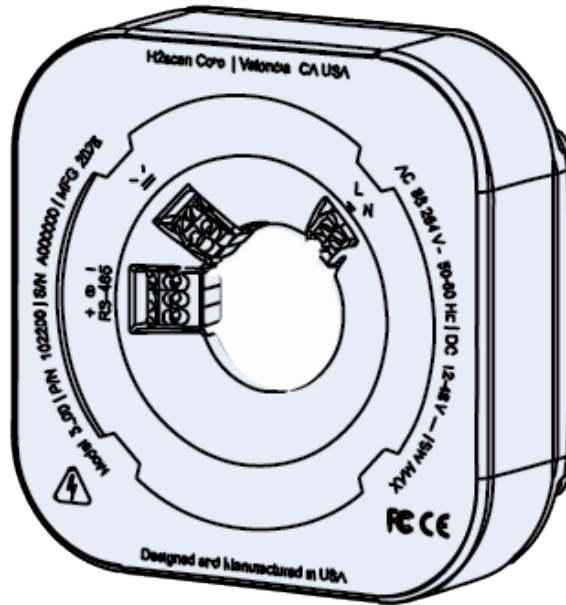

Figure 4: Connect Wires
3. Connect wires to the appropriate connector using a flathead screwdriver (see Figure 4).